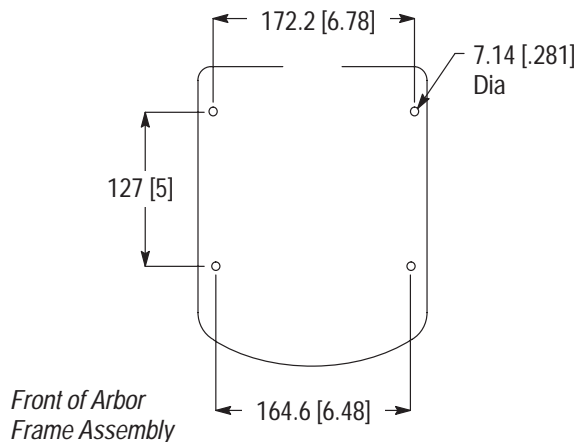

Figure 2
2. Secure the arbor frame assembly to a workbench to ensure stability during operation. Refer to Figure 2 for mounting hole dimensions.